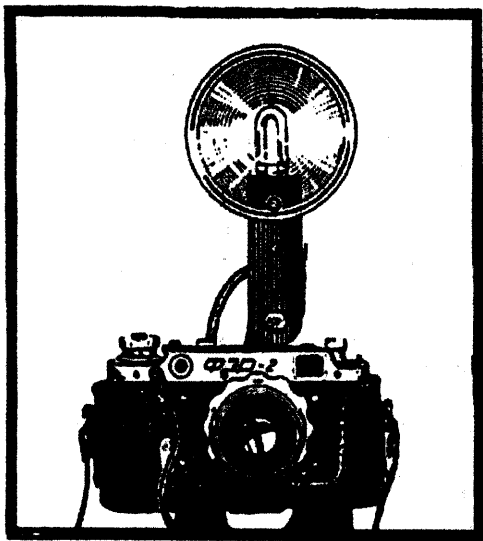

Fig. 13.
If the lighting conditions are poor, there may arise a necessity of using powerful sources of light-flash lamps. The camera shutter is provided with a synchronizer which connects the moment of flash with the shutter release. The synchronizer is designed for the use of flash bulbs and multiflashes with inertia time within $0+1$ millisecond. The flash lamp is connected with the camera plug socket (9) by means of a special conductor with a terminal (Fig. 13). The flash reflector is usually fastened with a special cleat to the tripod bush of the camera or is set into the clamp of the camera (Fig. 13). The synchronizer of the $\Phi\Xi\Delta-2$ camera has an interlock device which disconnects the electric circuit while the shutter is being wound.